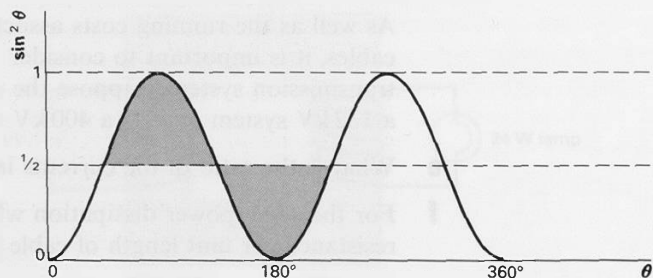

Figure H101
- d** The alternating current from the a.c. mains varies as $\sin \theta$. Figure H101 is a sketch graph of $\sin^2 \theta$, over one cycle. The two shaded areas are equal. What is the average value of $\sin^2 \theta$ over one cycle?